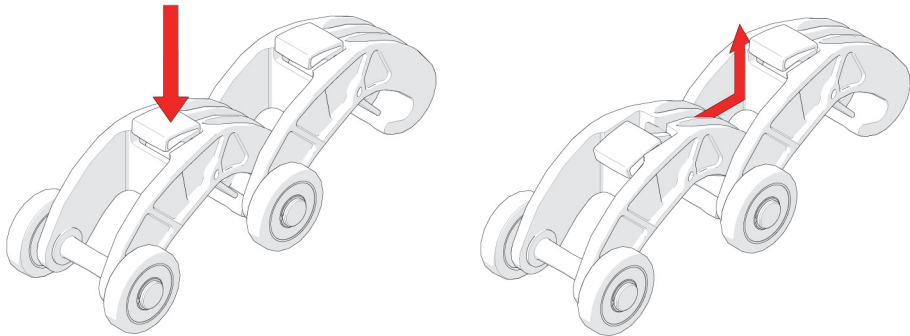

Figure 2-18 Disconnecting the QuickLinks
1. Press the button on the top of the QuickLink (see Figure 2-18 on page 49).
2. While pressing the button, slide the QuickLink forward and up, clearing the hook of the QuickLink from the second QuickLink's axle (see Figure 2-18 on page 49).